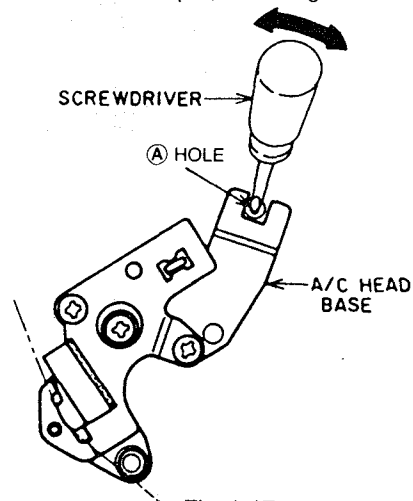

Fig. 4-17
- 4) Loosen the ③ screw slightly so that the A/C HEAD PLATE can be moved with reasonable tightness.
- 5) Insert a sharp flat head (→) screwdriver into the A/C HEAD BASE and ④ hole as shown in Fig. 4-17.
- 6) Move the A/C HEAD BASE by moving a screwdriver in the direction of the arrow as shown in Fig. 4-17 to obtain the maximum RF output, then tighten the ③ screw.